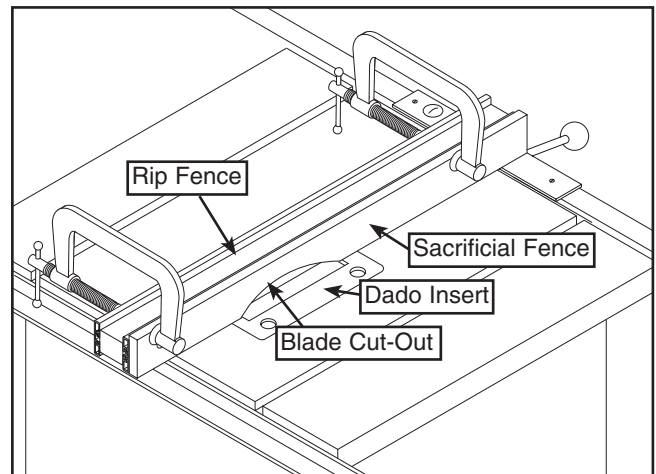

Figure 39. Sacrificial fence.
1. Rabbet cutting on the edge of a piece of stock requires the use of a sacrificial fence attachment. See **Figure 39**. The sacrificial fence can be made from a piece of wood that is as long as the metal fence and $\frac{3}{4}$ " thick. Once the sacrificial fence has been cut, attach it to the metal fence with screws or clamps, making sure they are all secure and tight.